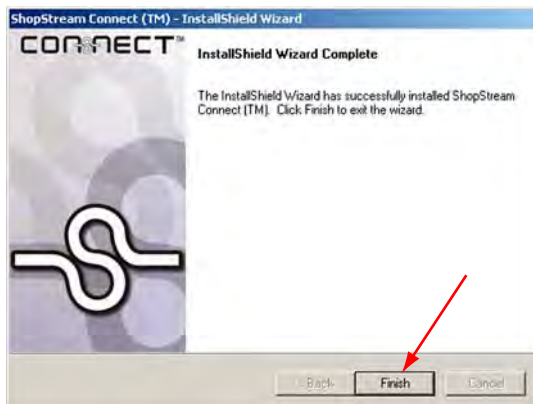

Figure B-6 Sample Complete screen
6. When the Complete screen displays, select **Finish** to close the Install Wizard (Figure B-6).